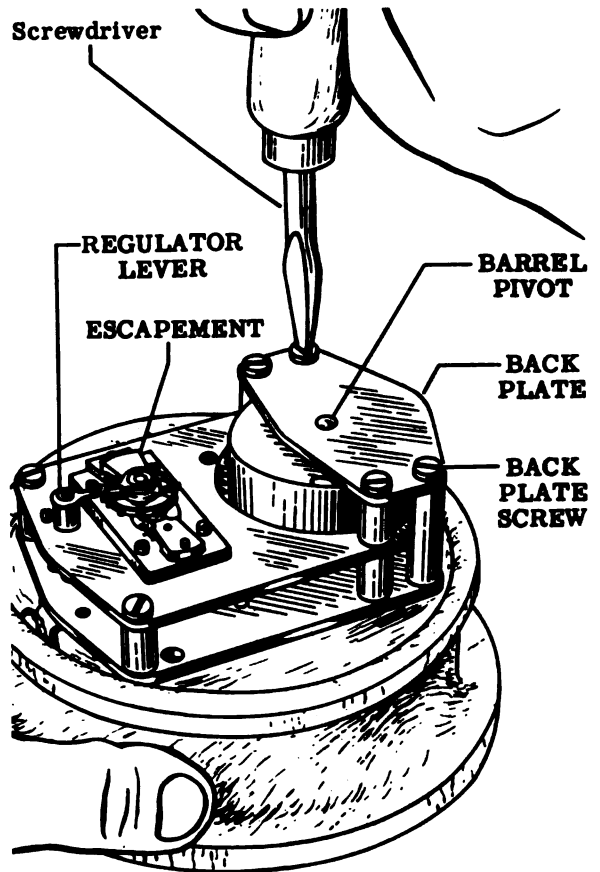

Figure 56
- Turn the movement so that it is train side up on the work block. Unscrew the four back plate screws as shown in Fig. 56 and lift off the back plate.